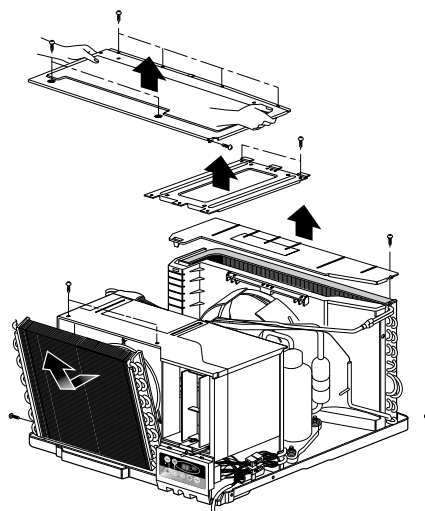

Figure 4
5. Slide the chassis back into the cabinet. Reinstall the cabinet screws. Secure the cabinet to chassis by using screws. (See Fig.4)
4. Remove the covers and the brace. (See Fig. 4)
2. Remove the 3 screws which fasten the evaporator at the left side and the top side. (See Fig. 4)